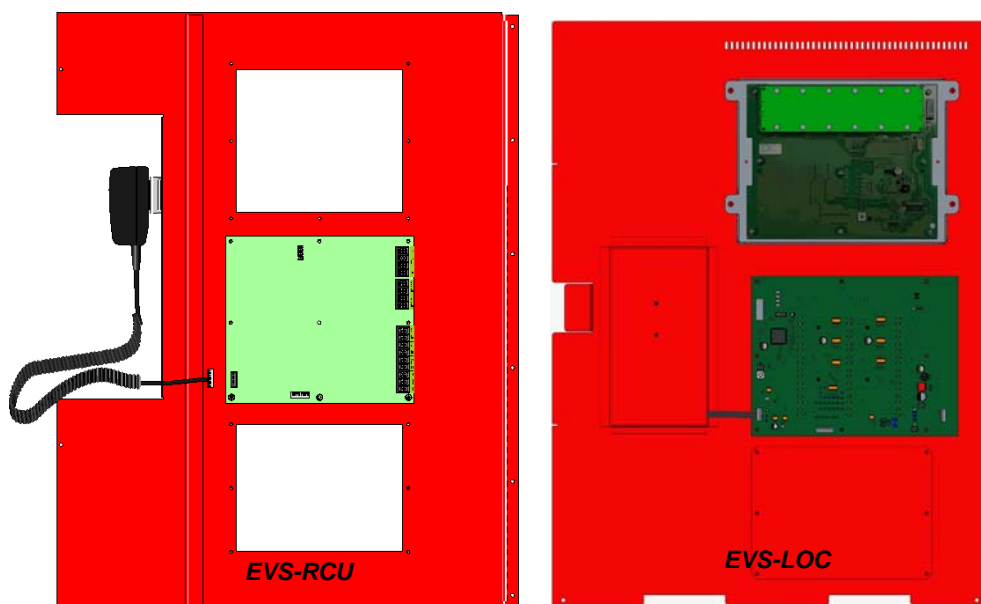

Figure 4.57 Back View of Dead Front Panel
- Unplug the Microphone from the microphone connector. See Figure 4.57.